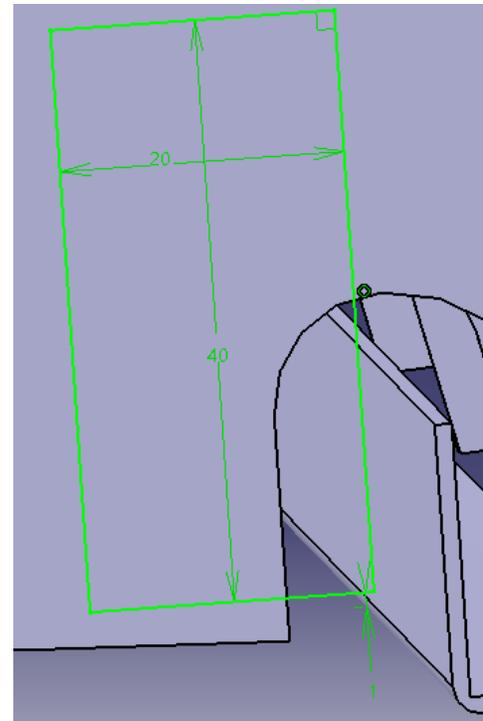
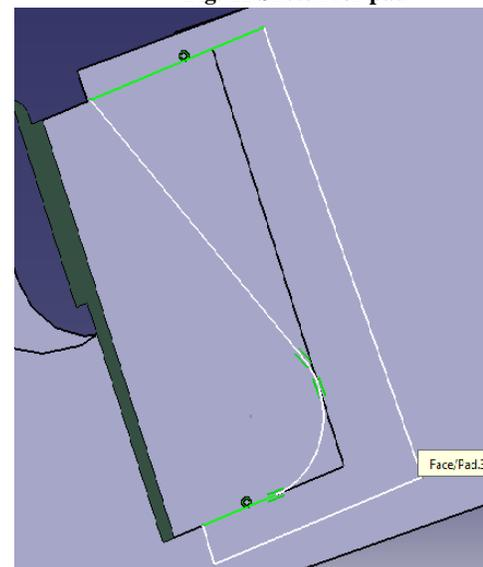

Fig. 12 Sketch for pad
Fig.13 Sketch for Pocket
- Make the figure as shown in fig.12 and pad it for 20 mm. After this use shell and remove the unwanted side. Pocket out the figure as shown in fig.13 and then do it to other side.